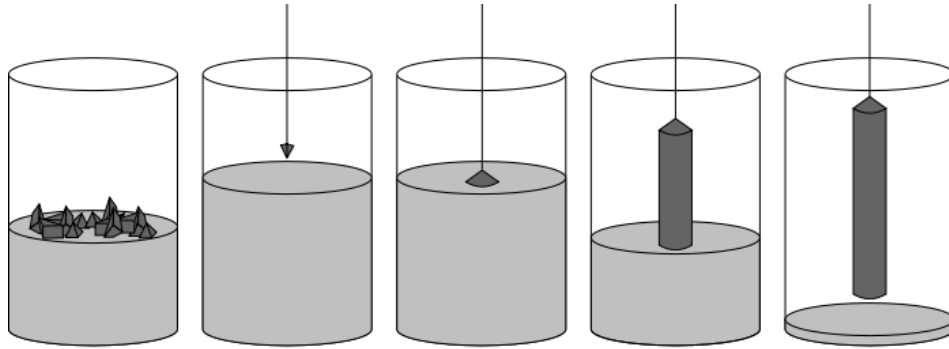

Figure 2: Czochralski process
- (a) *Figure 2* shows the procedure in Czochralski process in crystal growth used to obtain single crystals of semiconductors. By referring to *Figure 2*, explain the procedure in Czochralski process.